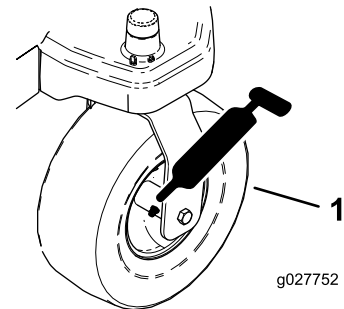
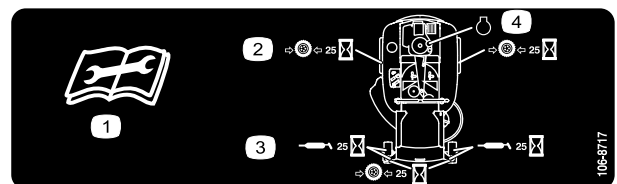

Figure 24
Figure 25
3. Clean the grease fittings with a rag (Figure 24 and Figure 25).
4. Connect a grease gun to each fitting (Figure 24 and Figure 25).